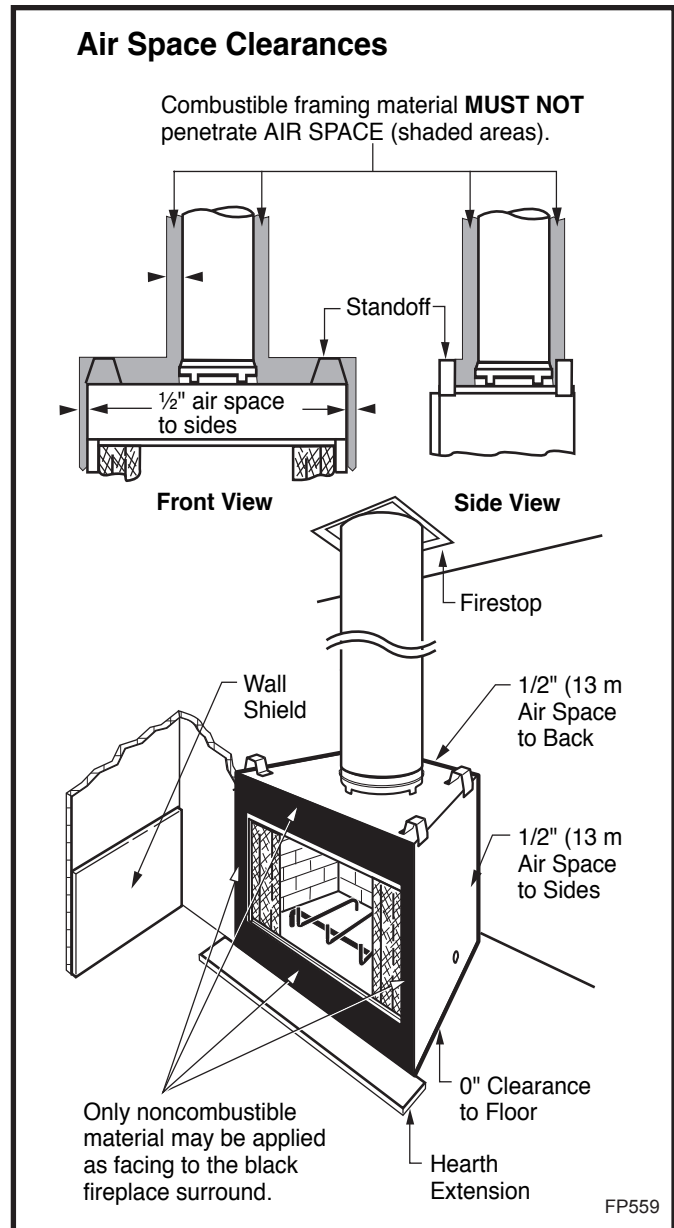
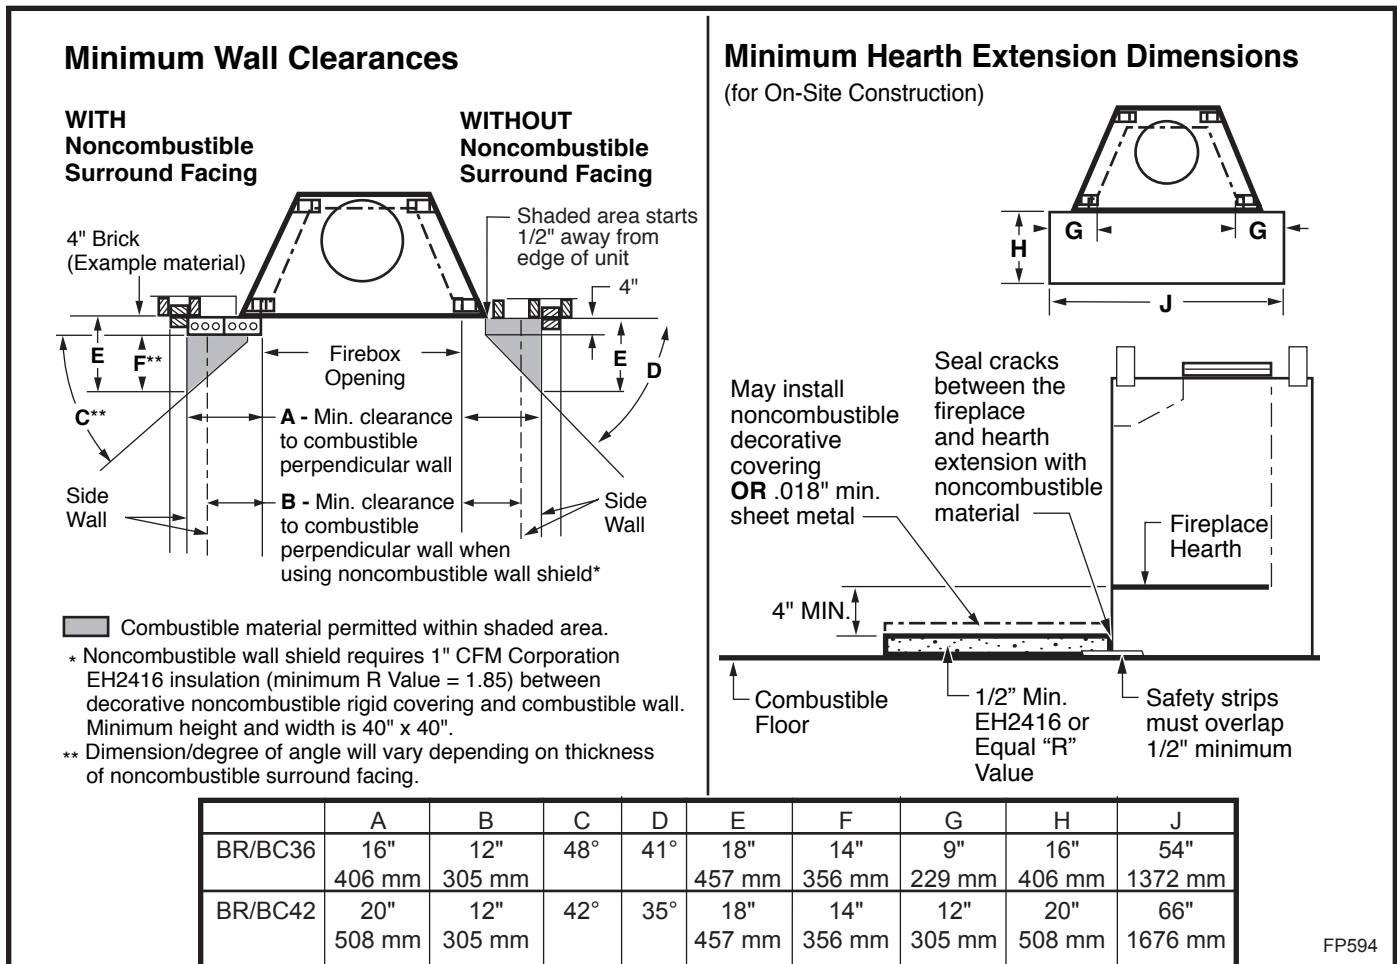

Fig. 20 Minimum clearances to combustibles.
Fig. 23 Combustible side wall protection and hearth extension dimensions.
CAUTION: All joints between the finished wall and the fireplace surround (top/sides) must be sealed with noncombustible material to prevent cold air leakage into the room. Only noncombustible material may be applied to the facing of the fireplace surround. (Black painted area) (Fig. 20)
Often a decorative surround or vertical portion of the mantel is desired. If this is constructed of any combustible material it must be within the safe zone indicated in Figure 23.
Adjacent combustible side walls that are within minimum dimensions shown in Figure 23 of the fireplace opening must be protected with a specifically built wall shield as described in Figure 20.
The special wall shield design described in Figure 20 is an alternate method of adding protection to side walls. Rt must = 1.85 minimum.
A hearth extension is required to protect a combustible floor in front of the fireplace. Refer to Figure 23 for minimum dimensions and mounting detail.
The hearth extension described in Figure 23 must be a durable noncombustible material with a minimum (total) Rt value of 1.09; see Figure 24 for examples. The overall height (above a combustible floor), depth and width must be as indicated, with the extension centered to the fireplace opening.
The top of insulation must be covered with a noncombustible decorative covering or a piece of .018" minimum sheet metal, to protect hearth extension material. (Fig. 23)
Secure the hearth extension to the floor to prevent shifting, using trim molding or other similar means at three (3) outer edges. Seal crack between the fireplace hearth and hearth extension with a noncombustible material. (Figs. 23 and 25)
WARNING: HEARTH EXTENSION MUST BE INSTALLED IN ACCORDANCE WITH FIGURE 23 AND MUST NOT COVER THE BOTTOM FRONT OPENING OF THE CIRCULATING MODEL.